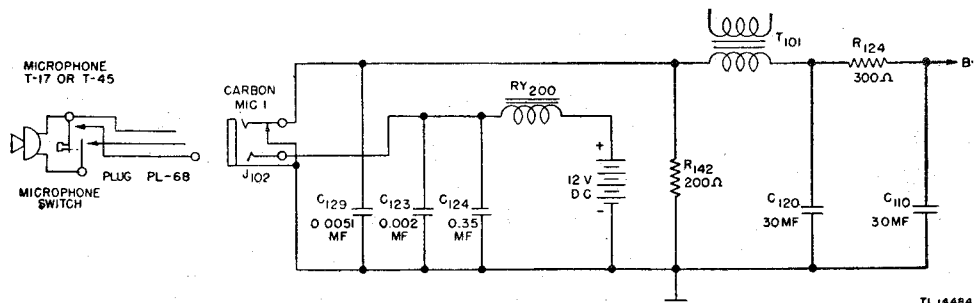

Figure 85. Carbon microphone circuit—functional diagram.
a. MICROPHONE T-17 OR T-45 (fig. 85). The control and jack marked CARBON MIC. 1, located on the upper left-hand side of the front panel of the speech amplifier, are for use with carbon Micro-